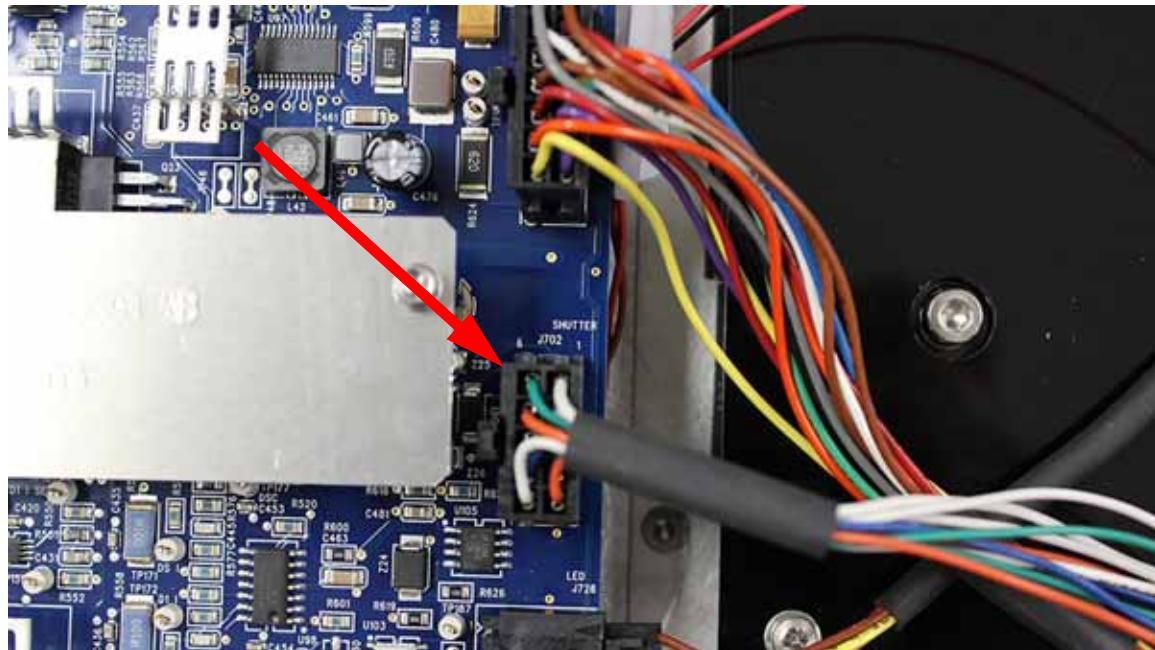

Figure 4.5-3. Shutter Plug
4. Disconnect the shutter plug, being careful to avoid fibers including the seed fiber (see Figure 4.5-3).